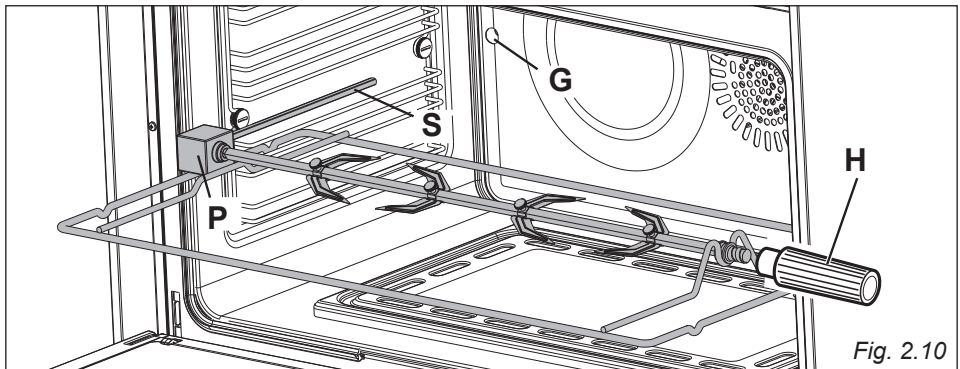

Fig. 2.10
USE OF THE ROTISSERIE (fig. 2.10)
- Insert the rod into the side gear opening “P” (fig. 2.10).